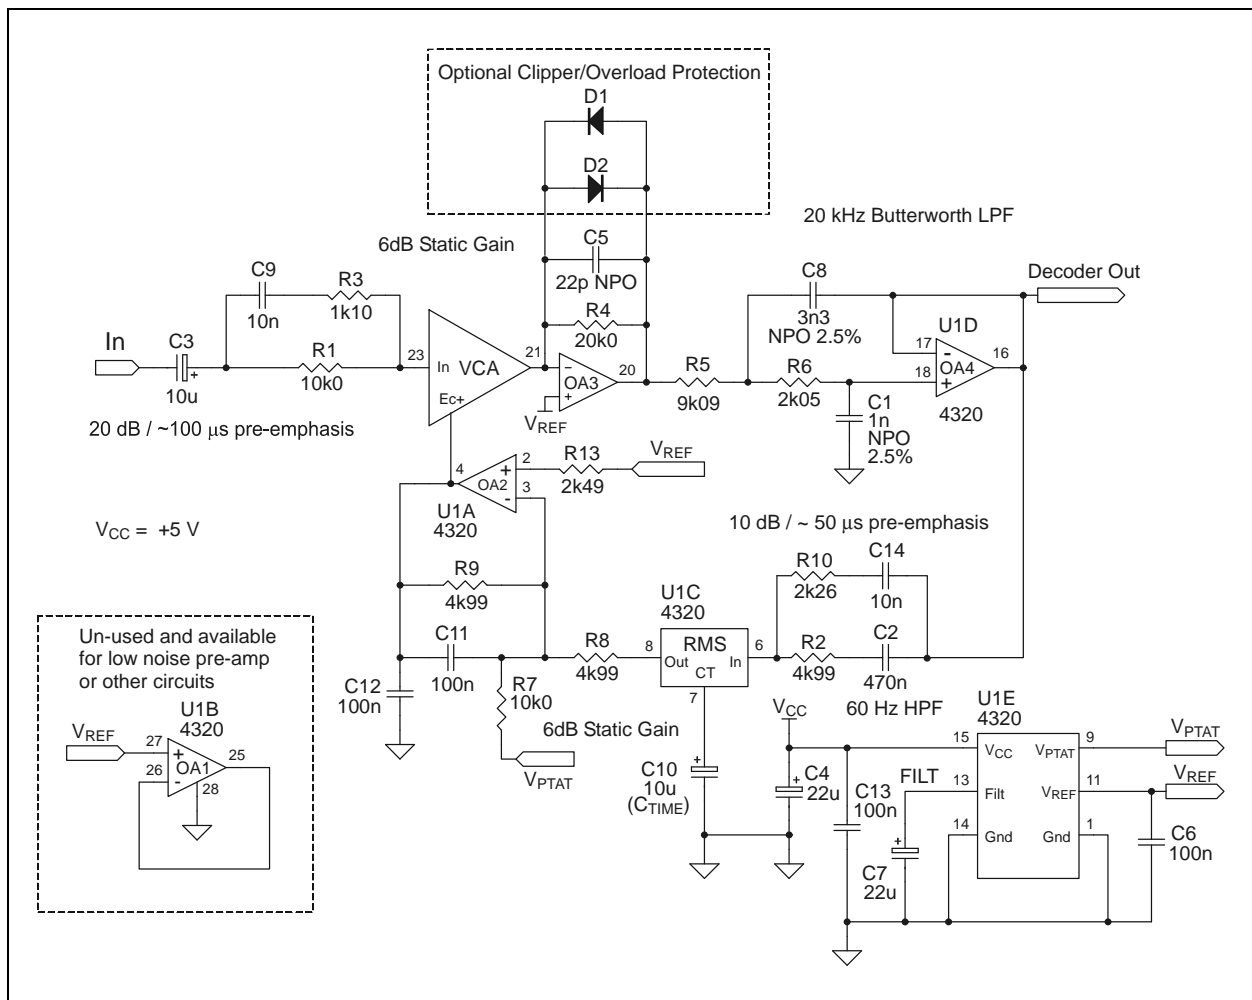
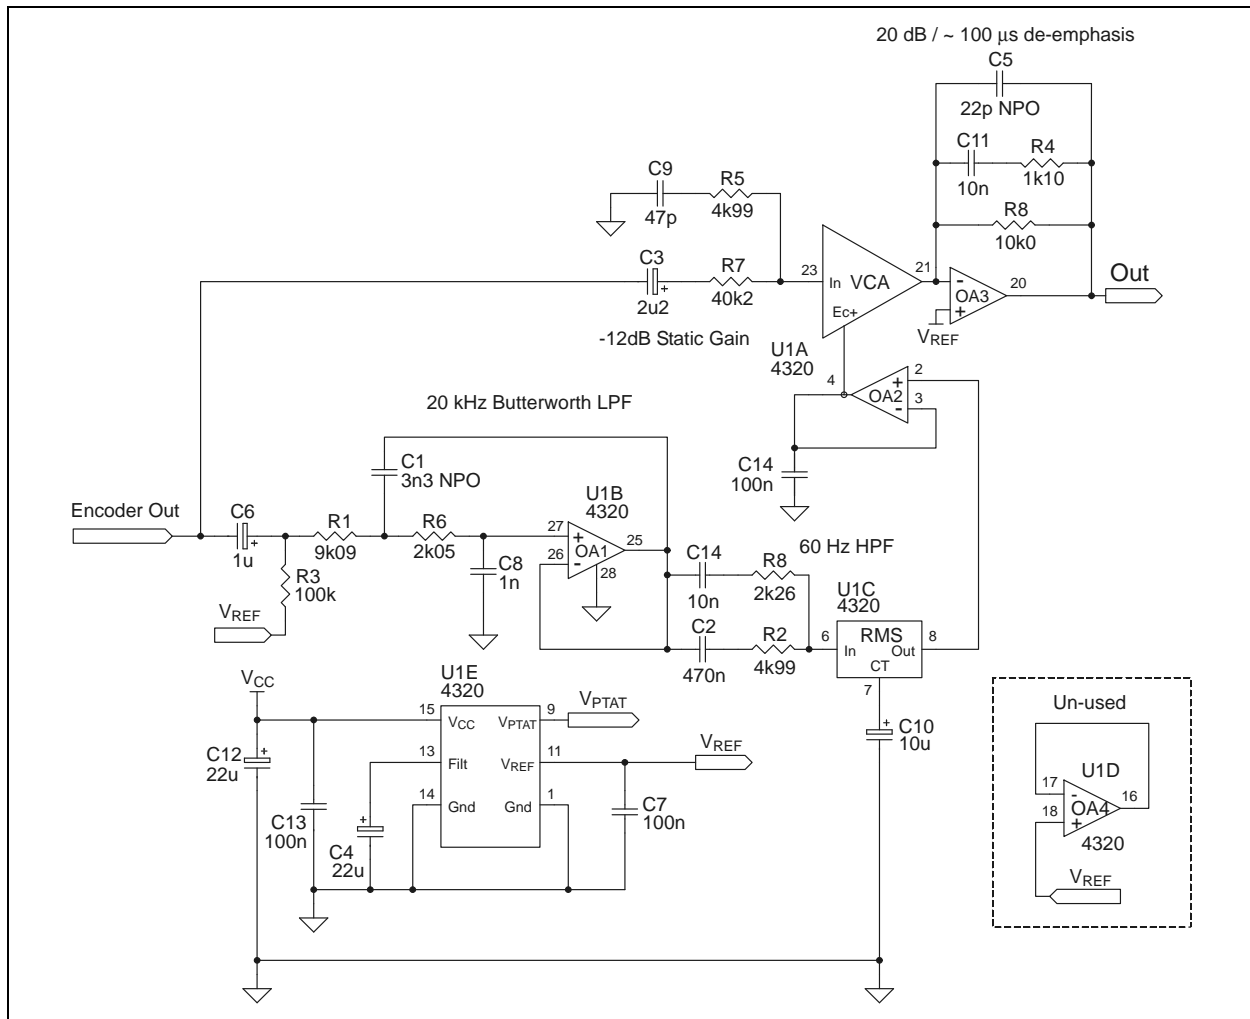

Figure 12. THAT4320 2:1 Encoder Circuit (QSOP-28 pin assignments shown)
Figure 13. THAT4320 2:1 Decoder Circuit (QSOP-28 pin assignments shown)
7. Compressor circuit is as shown in Figure 12. Expander circuit is as shown in Figure 13.
Figure 12 shows a simple 2:1 encoder or feedback compressor. The encoder in a wireless companding system is located in the transmitter and generally operates from a battery supply.
As described in the Theory of Operation section "The RMS Detector - In Brief" (on page 9), the RMS detector is capable of driving large spikes of current into the averaging capacitor  $C_{TIME}$ . To prevent these currents from upsetting circuit grounds, it is necessary to bypass  $V_{CC}$  to a point very near the grounded end of the  $C_{TIME}$  with a capacitor ( $C_4$  in Figure 12) equal to or greater than the value of  $C_{TIME}$ . The grounded ends of these two capacitors should be connected together before being tied to the rest of the ground system. Doing so will ensure that the current spikes flow within the local loop consisting of the two capacitors, and stay out of the ground system. This requirement applies to the decoder and other applications of the THAT4320 as well.
Figure 13 shows the THAT4320 configured as a 2:1 expander, an arrangement intended to complement the encoder in Figure 12. This circuit is optimized for low-voltage operation, as might be the case for a decoder in an in-ear monitoring system which will run from battery power.
The pre-emphasis network from the VCA input in Figure 12 is now in the feedback loop of OA3; This provides de-emphasis. The VCA is set up with -12 dB of static gain to keep output signal levels low for battery operation. Because the VCA is not stable unless it sees a high frequency source impedance of 5 kΩ or less, R5